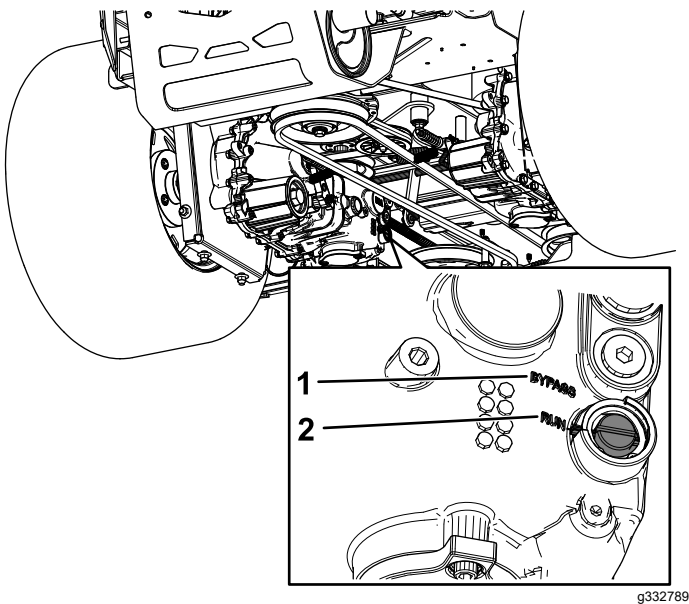

Figure 39
3. Using a flat-head screwdriver, rotate both cams to the BYPASS position (Figure 39).
5. To run the machine, rotate both cams to the RUN position (Figure 39).